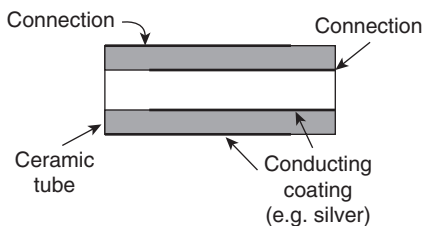
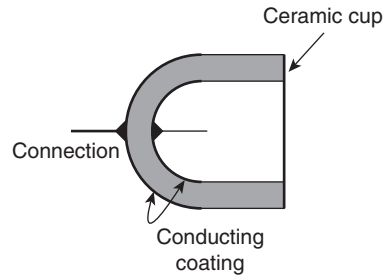
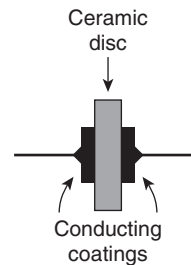

Figure 6.17
Figure 6.18
Figure 6.19
4. **Ceramic capacitors.** These are made in various forms, each type of construction depending on the value of capacitance required. For high values, a tube of ceramic material is used as shown in the cross section of Fig. 6.17. For smaller values the cup construction is used as shown in Fig. 6.18, and for still smaller values the disc construction shown in Fig. 6.19 is used. Certain ceramic materials have a very high permittivity and this enables capacitors of high capacitance to be made which are of small physical size with a high working voltage rating. Ceramic capacitors are available in the range 1 pF to 0.1  $\mu$ F and may be used in high frequency electronic circuits subject to a wide range of temperatures.